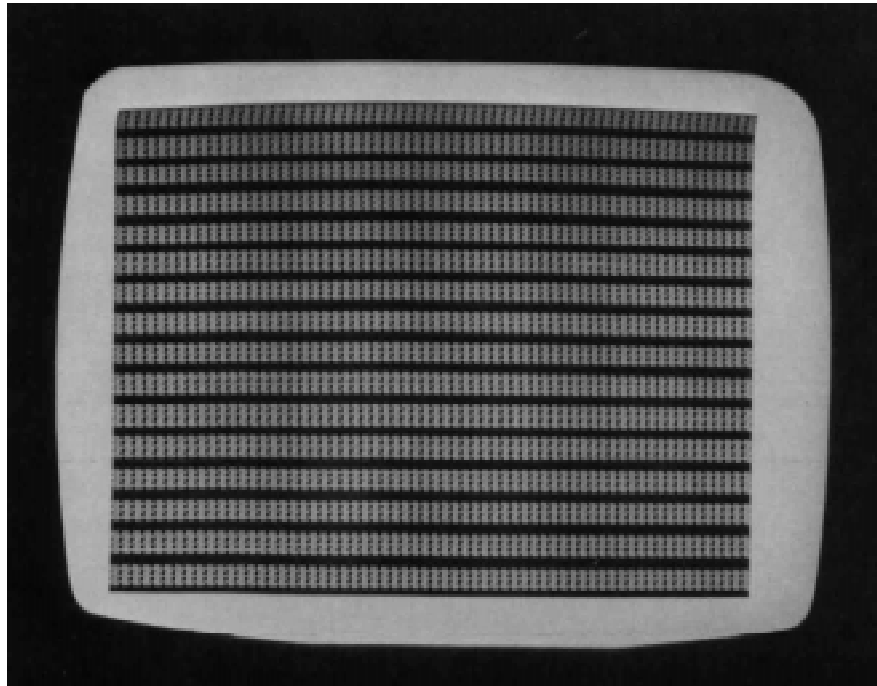

Figure 3-9. CPU Functional Test No. 1 display, 6574 or 6575 character generator (U25)
- () Momentarily ground pin 2 of U75. The display should blank while pin 2 of U75 is grounded. When you remove the ground, the display shown in Figure 3-9 on Page III-29 should appear.
The pattern shown in Figure 3-9 (delete characters) results from all bits of the DIO Bus being high. If you do not see the delete characters, one or more bits of the DIO bus are low. Consult the MCM6575 or MCM6574 pattern, as appropriate, in Section VIII of this manual to determine which bits are low.